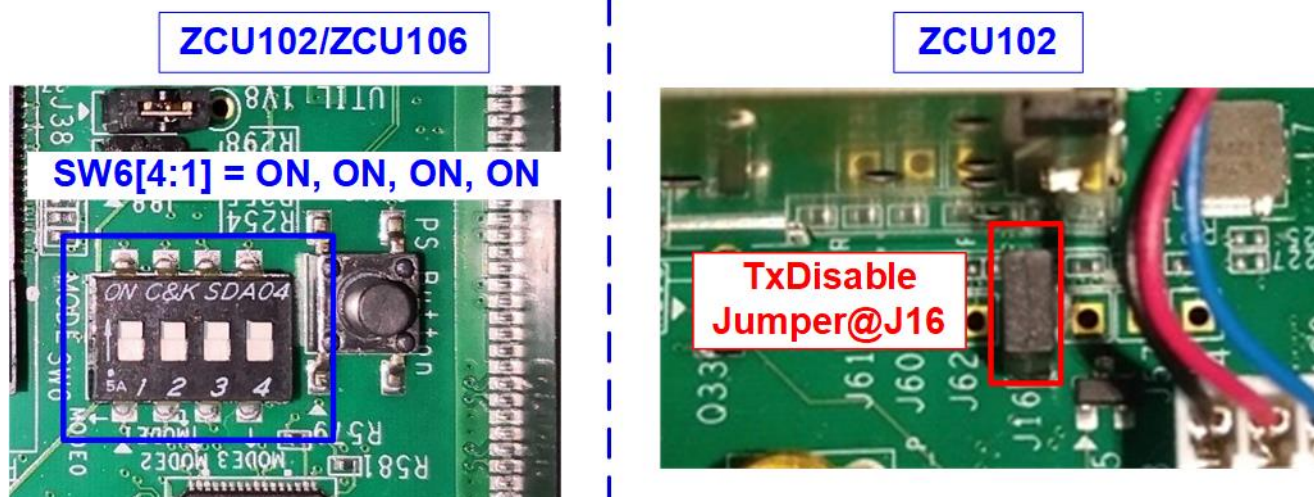

Figure 1-7 ZCU102 board setting
- b) Board setting on ZCU102/ZCU106 board is shown in Figure 1-7.